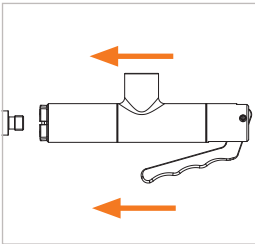

Figure 6
- ▶ With the hand lever (Pos. 2) pressed, insert the connector straight onto the test piece until the front seal (Pos. 7) touches the test piece (Figure 6). Doing so will prevent any damage to the front seal caused by any sharp edges on the test piece and ensure a correct connection. **Attention:** Insert the connector carefully and not with force onto the test piece.